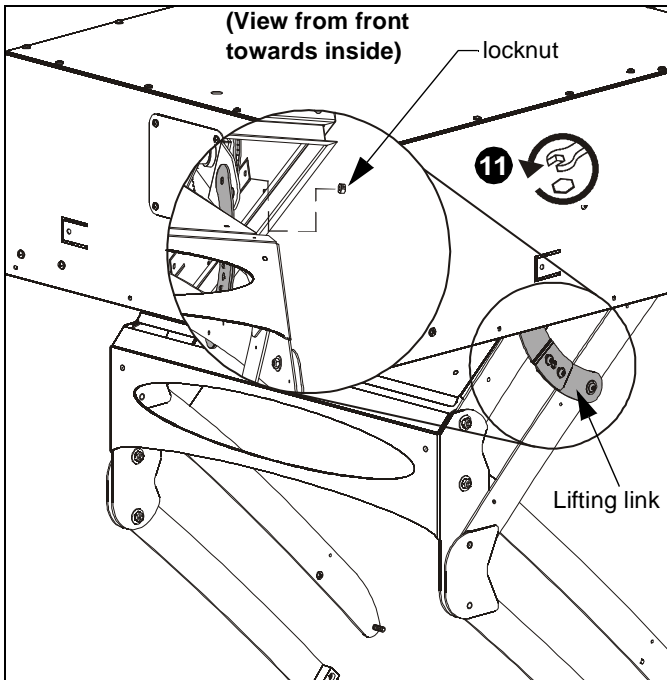

Figure 5
11. Remove one locknut from top of lifting link, and swing the lifting link out of the way. (See Figure 5)